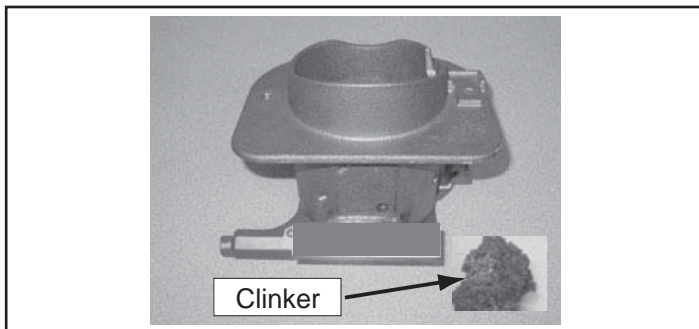

Figure 16.1 - Firepot with large clinker
- It may be necessary to use your firepot cleanout tool to chip away material that has built up on the sides of the firepot and to push out any clinkers. **Figure 16.1**